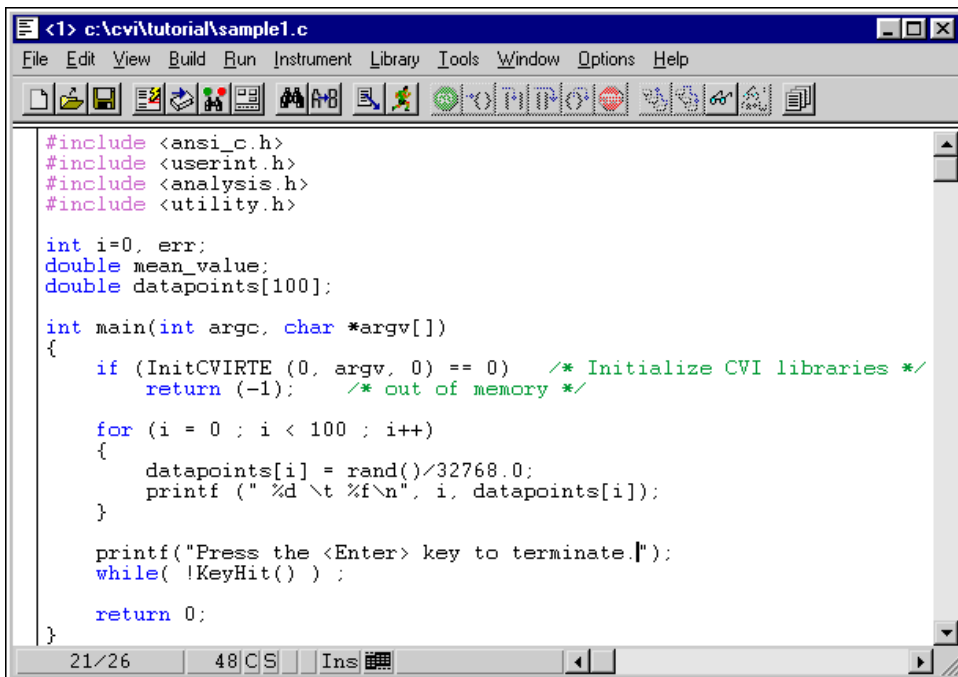

Figure 2-3. Source Code for the sample1.c File
*.c	Source window. Refer to Figure 2-3.
3. The source code appears as shown in Figure 2-3. As you can see, the source code for `sample1` contains standard ANSI C compatible code.